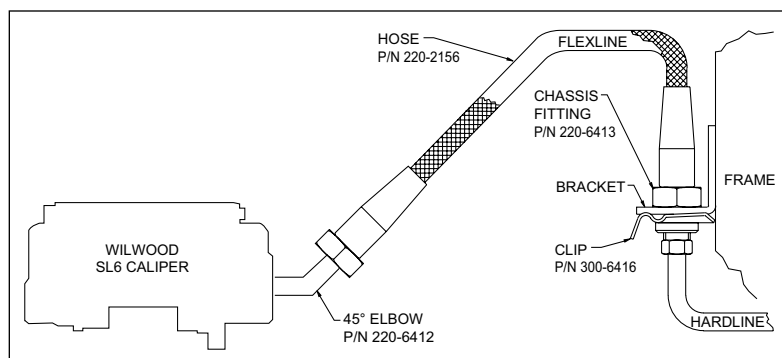

Figure 4. Brake Line Diagram
•**NOTE:** The caliper in this brake kit utilizes a 1/8-27 NPT pipe thread inlet (use PTFE tape on pipe threads of adapter fitting for proper sealing to caliper). OEM rubber brake hoses generally cannot be adapted to Wilwood calipers. Wilwood offers a brake flex line hose kit to fit this application, order P/N 220-9100, Figure 4. Hose kit includes hoses, fittings, etc., all in one package for this application. **Carefully route hoses to prevent contact with moving suspension, brake or wheel components.** **NOTE:** Wilwood hose kits are designed for use in many different vehicle applications and it is the installer's responsibility to properly route and ensure adequate clearance and retention for brake hose components.